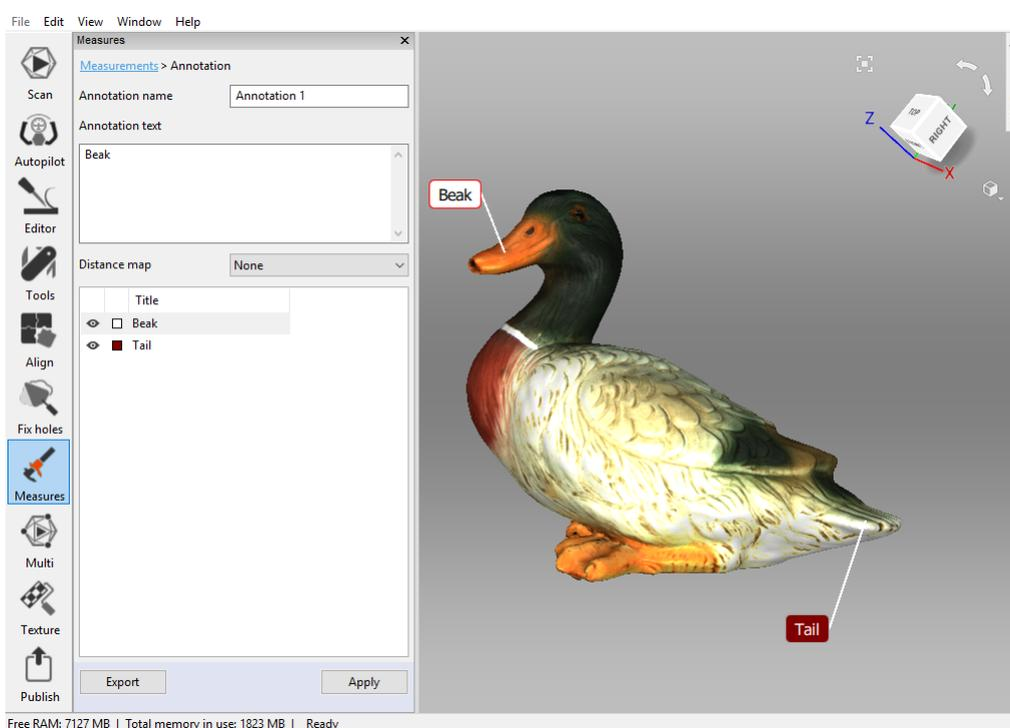

Figure 118: Annotation of a model layered with a surface-distance map.
*Annotations* tools allow you to mark noteworthy surfaces and surface-distance maps. The annotation can include one or more labels, which look like rectangular tags with connecting lines pointing to the corresponding surface elements (see Figure 118).
5. Repeat Steps 3 and 4 to create a new label. In addition to tagging the surface, each new label will appear in the annotation list of the *Measures* panel (see Figure 118). You can show or hide labels in the list or change their colors by clicking RMB and selecting the appropriate option from the menu. Alternatively, toggle the selection flag  or click the square button to show/hide labels or change their colors, respectively.
- Select the label in the *3D View* window; its border color will become red (see selected label in Figure 118). Hit the **Del** key.